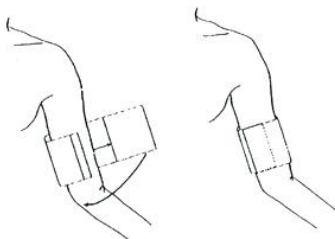

Figure 10-1 Applying Cuff
2. Apply the blood pressure cuff to the patient's arm according to the instructions below (Figure 10-1).